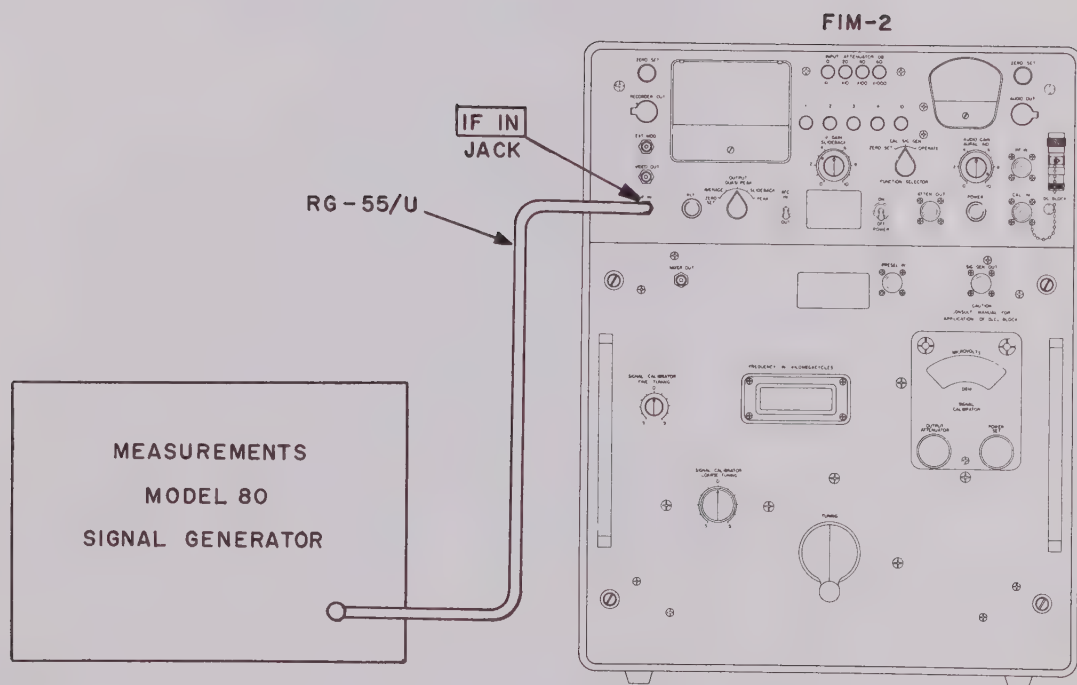

Figure 4-9. Localizing Trouble to Either R-f or I-f Circuitry, Equipment Set Up
g. Connect a calibrated signal generator, tuned to 260 mc and adjusted to an output level of 3 microvolts, to the IF IN jack, as shown in figure 4-9.